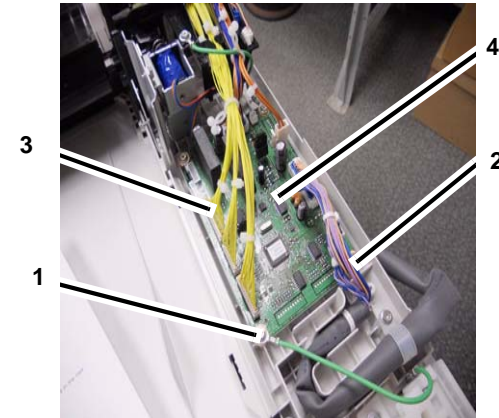

Figure 2 DADF PWB Removal
4. Remove the DADF PWB. (Figure 2)